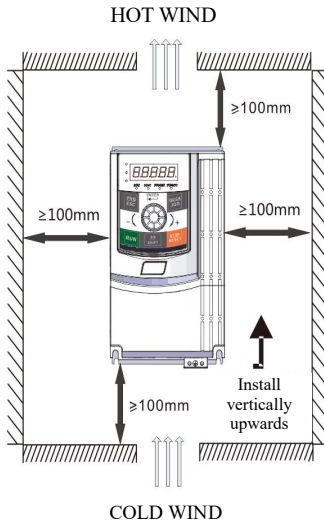

Figure 3-1. Installation diagram of single unit
2. The installation space should comply with Figure 3-1 to ensure the heat dissipation space for the VFD. However, please consider the heat dissipation of other components in the cabinet during the layout.